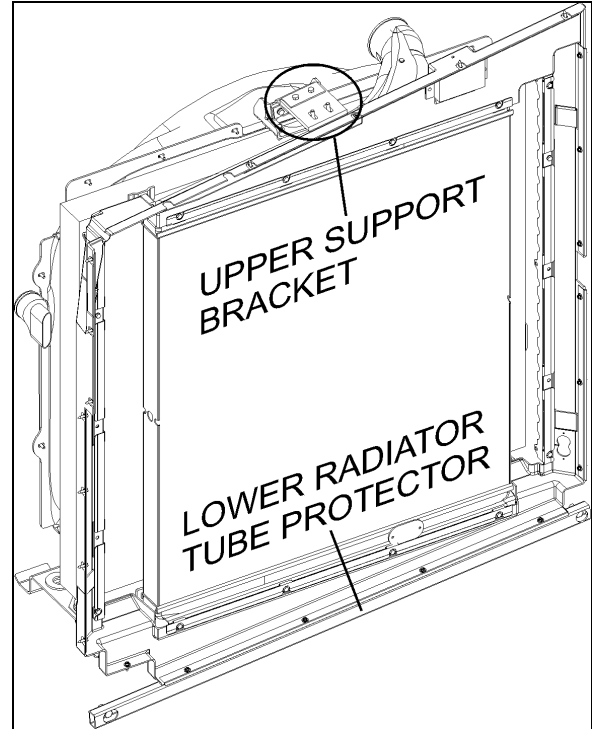

FIGURE 14: UPPER SUPPORT BRACKET & TUBE PROTECTOR
12. Remove the upper radiator assembly support bracket (Figure 14).
13. Remove the lower radiator assembly tube protector from the lower section (Figure 14).